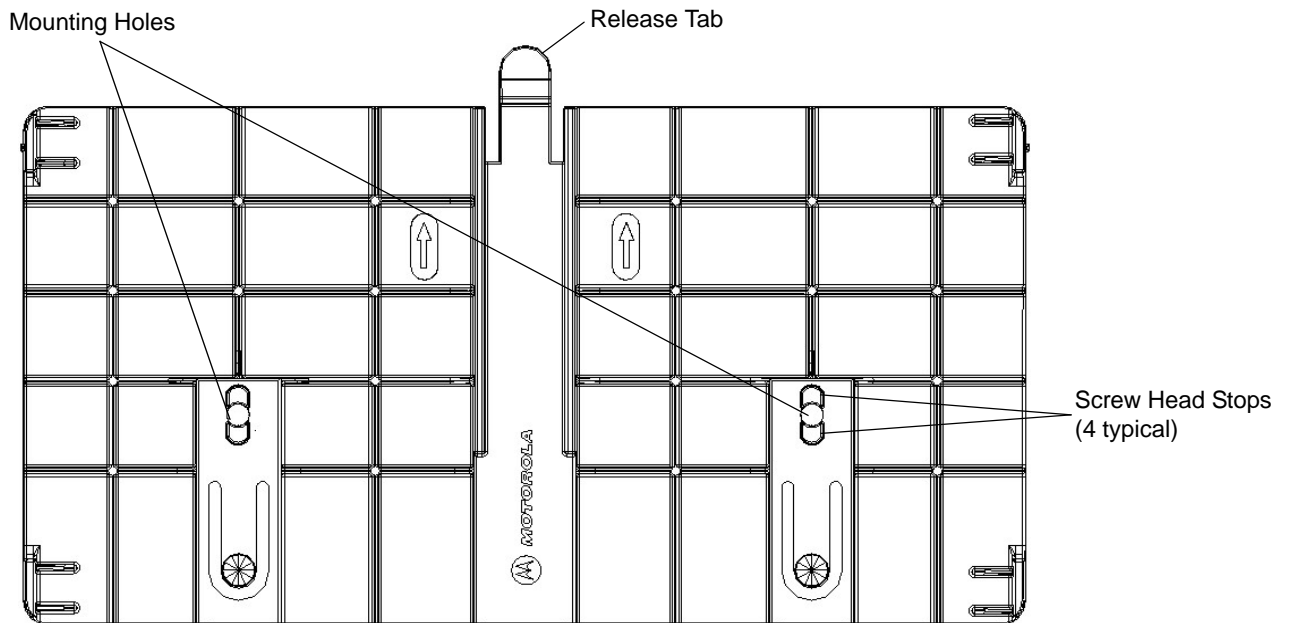

Figure 3-1 Mounting Plate, Front
1. Position the mounting plate on a flat surface (wall or shelf). Position the release tab on the top. See Figure 3-1.
2. Mark the hole locations using the mounting plate as a guide. See Figure 3-1. Remove the mounting plate and drill holes (appropriate for the surface material) at the marked locations.
CAUTION Use a hand screw driver to install the mounting plate (do not use a power driver). Do not use excessive torque, and tighten the screws so that they are just snug on the screw head stops (see Figure 3-1). If the reader does not engage the mounting plate, loosen the screw(s) 1/8 to 1/4 turn and try again.